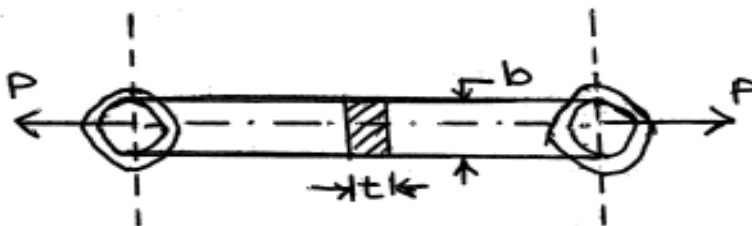

Fig. No. 03
- 5. Attempt any four of the following. (16)**
- e) A M.S. link as shown in Fig No.03 transmits a pull of 90 kN. Find the dimensions 'b' and 't' if $b = 3t$. Assume the permissible tensile stress as 65 MPa. 4